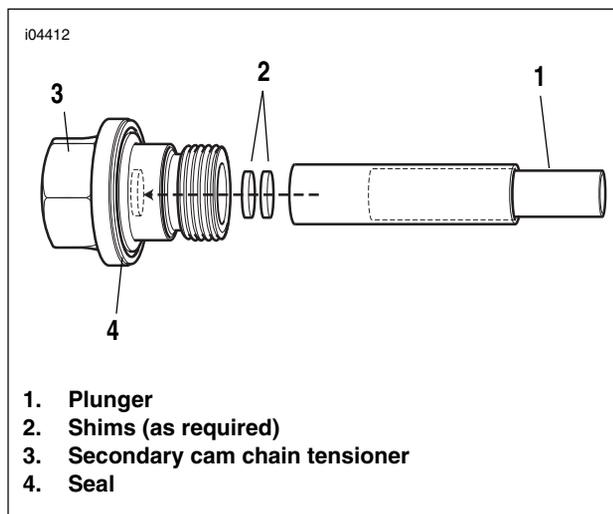

Figure 1-90. Secondary Cam Chain Tensioner
15. See Figure 1-90. Wrap cardboard or heavy cloth around thick shaft on plunger (1). Gently twist while pulling to remove plunger (1) from tensioner (3).
16. Apply a thin film of Harley-Davidson Motorcycle Oil 20W50 to selected shims (2) and plunger (1).
17. Seat number of selected shims (2) and plunger (1) in tensioner (3).
18. Lubricate tensioner seal (4) with Harley-Davidson Motorcycle Oil 20W50.
26. See Figure 1-90. Wrap cardboard or heavy cloth around thick shaft on plunger (1). Gently twist while pulling to remove plunger (1) from tensioner (3).
27. Apply a thin film of Harley-Davidson Motorcycle Oil 20W50 to selected shims (2) and plunger (1).
28. Seat number of selected shims (2) and plunger (1) in tensioner (3).
29. Lubricate tensioner seal (4) with Harley-Davidson Motorcycle Oil 20W50.